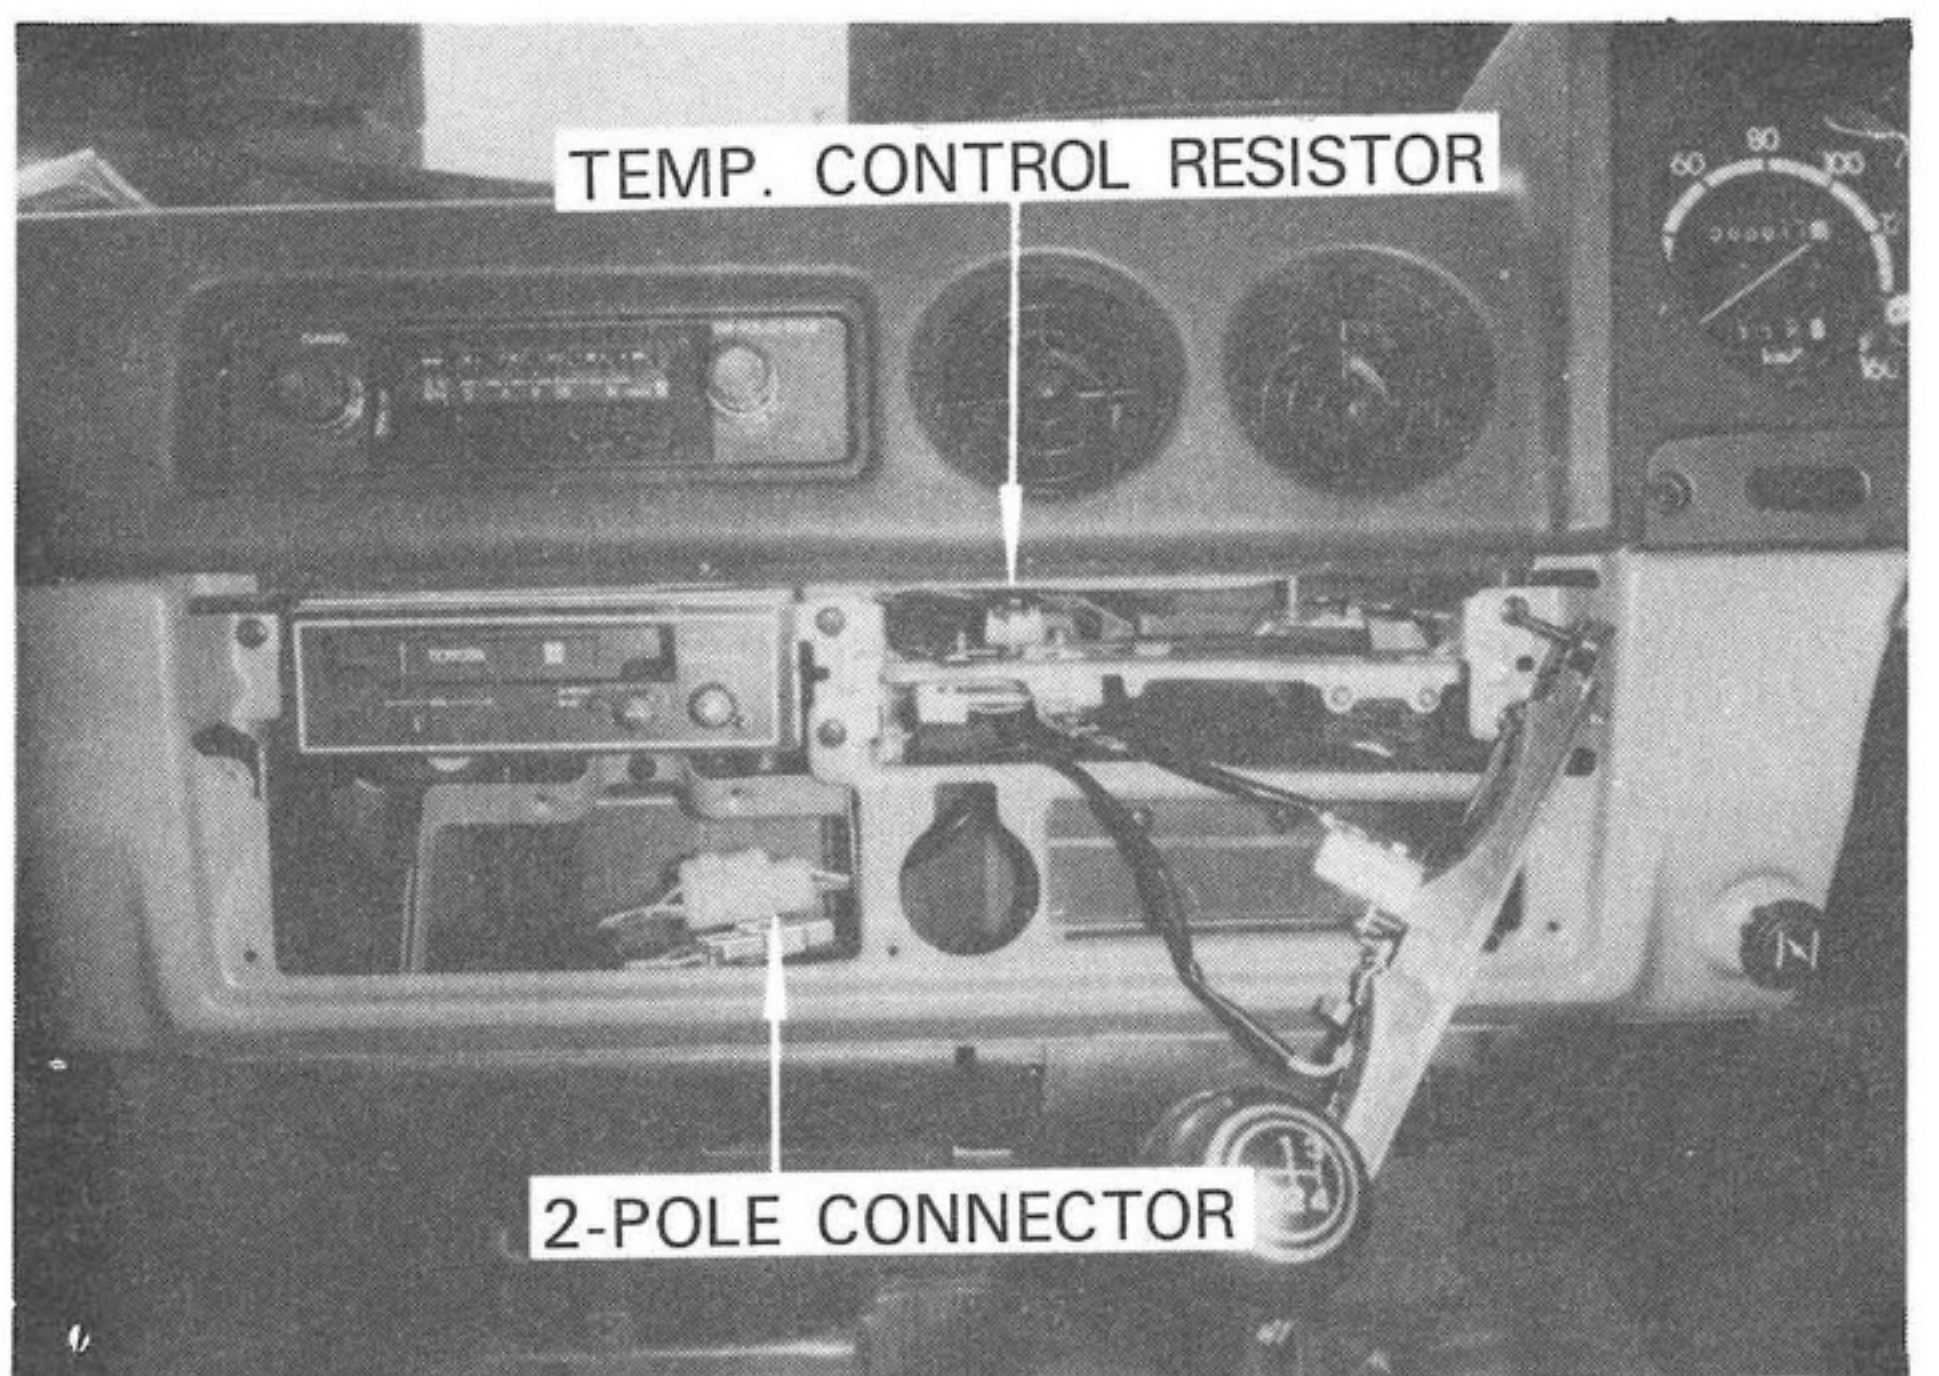

Fig. 1-15
- D) Connect the 2-pole connector of temp. control resistor to the A/C wire harness. See Fig. 1-15.